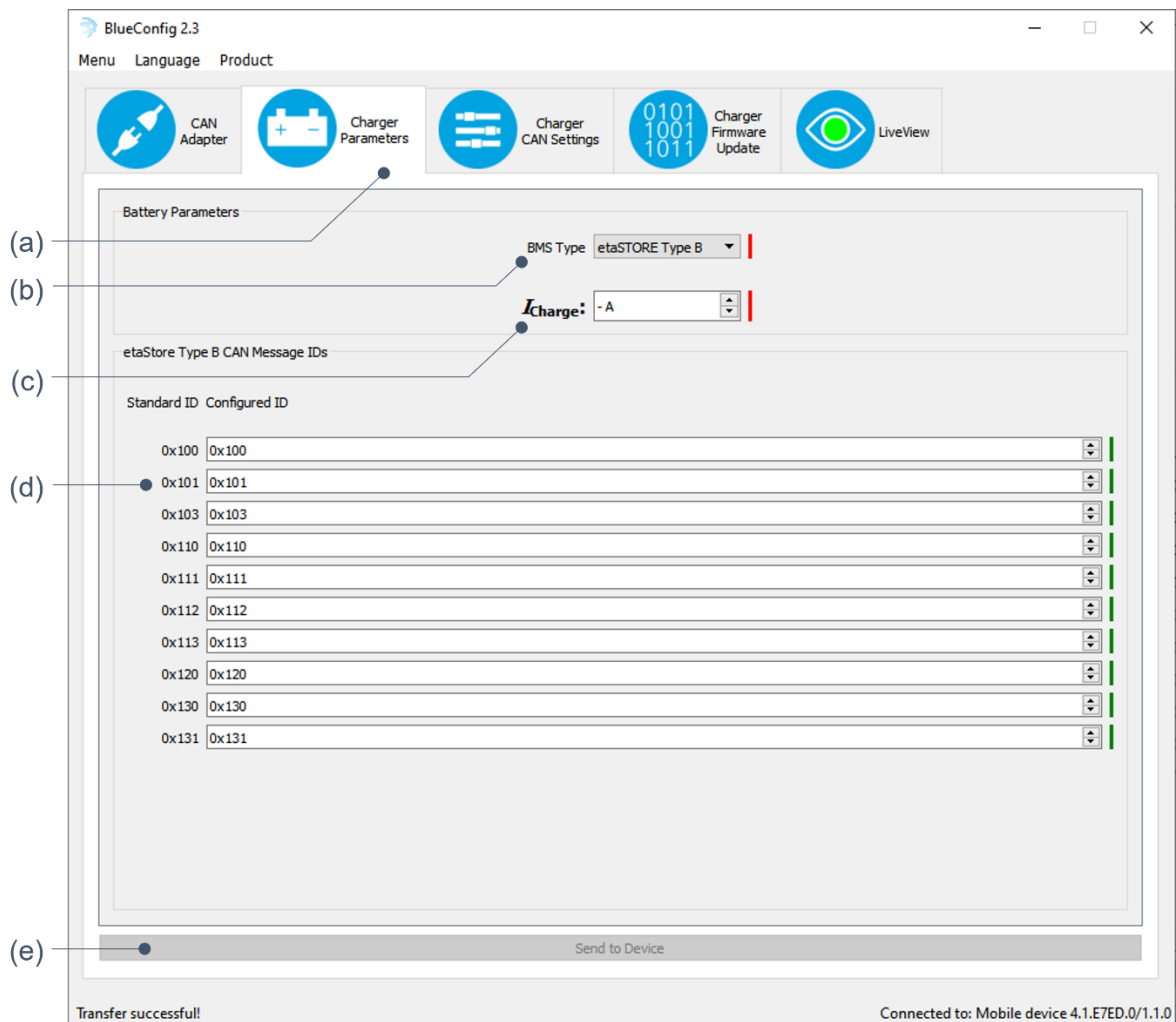

Figure 12: Configuration for automatic mode charging as available for etaSTORE batteries.
- ▶ The CAN message IDs of the etaSTORE battery system must match with the corresponding IDs of the charger as configurable in BlueConfig (see Figure 12 **(d)**).